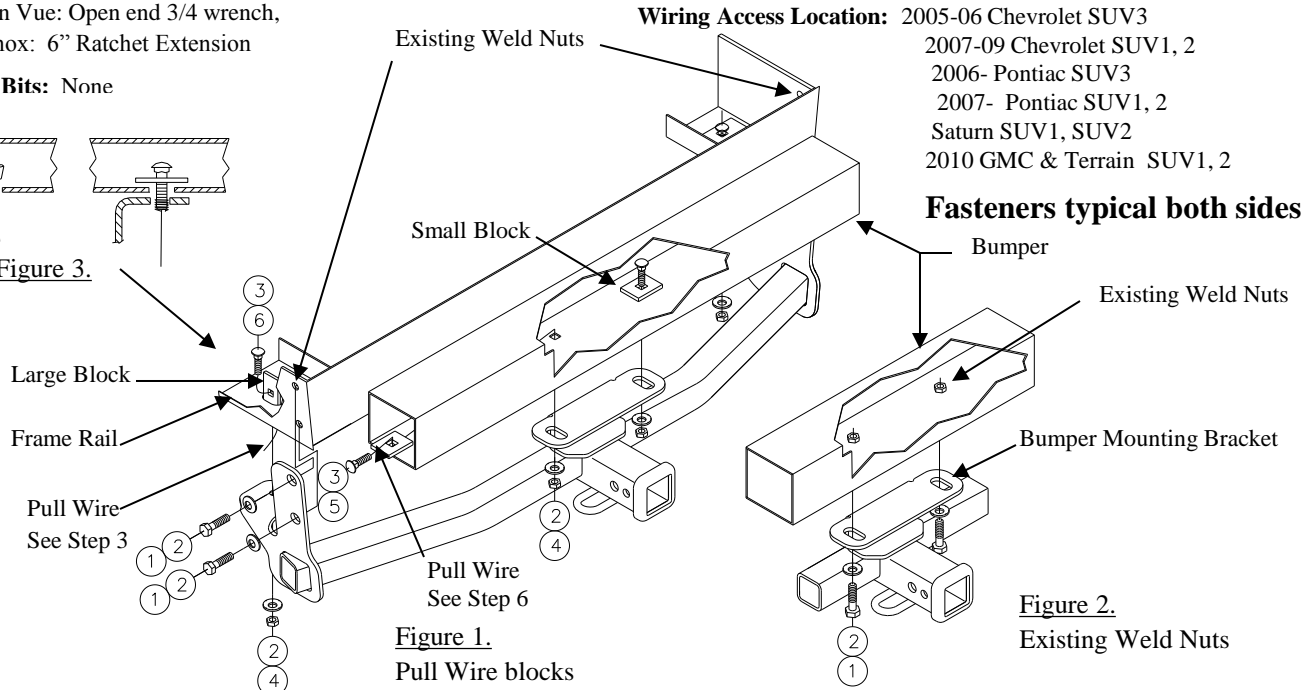

Figure 1.
4. Raise the hitch into position; lifting the bumper mounting bracket over the fascia (where needed). Secure with M12 bolts and conical washers into the existing weld nuts, being careful not to push the bolts into the frame, as shown Figure 1.
6. **On vehicles without existing weldnuts in the bumper:** Pull carriage bolts and small blocks thru end of the bumper and feed through the bumper mounting bracket using the pull wire. Attach conical washer and nut. As shown Figure 1.